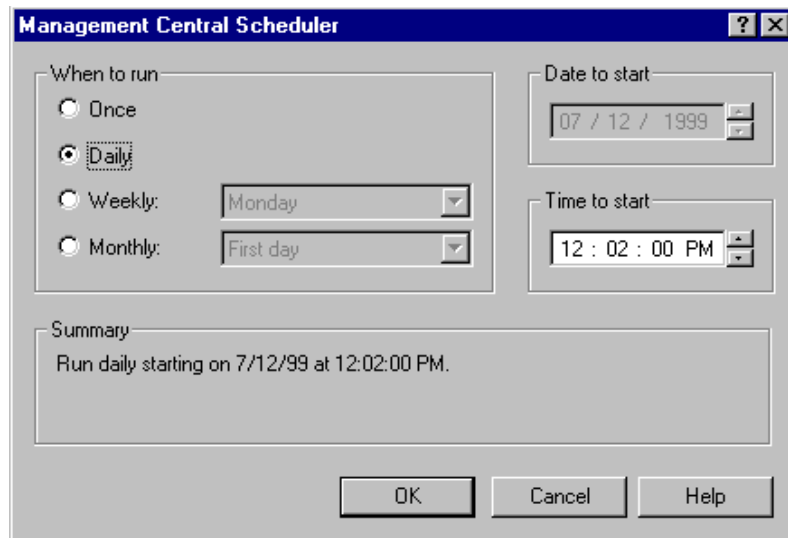

Figure 116. Scheduler window: Scheduling daily Start Collection Services
3. On the Management Central Scheduler window, select **Daily** and the appropriate time. Figure 116 on page 145 shows an example of this window.